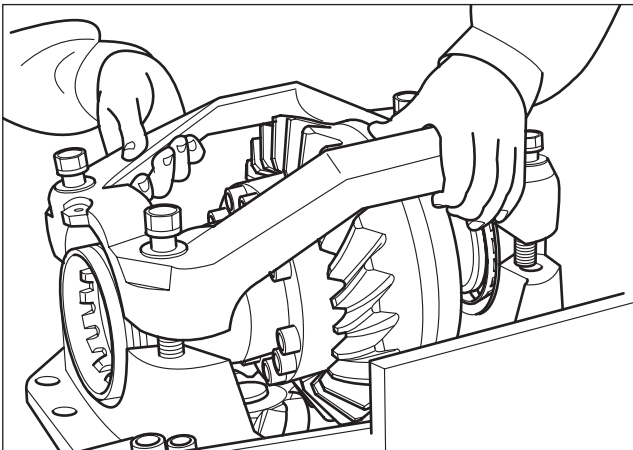

Fig. 2.82
5. Locate the bearing cap casting in position - ensuring that the adjuster threads in each adjuster are engaged correctly. (Fig. 2.82)